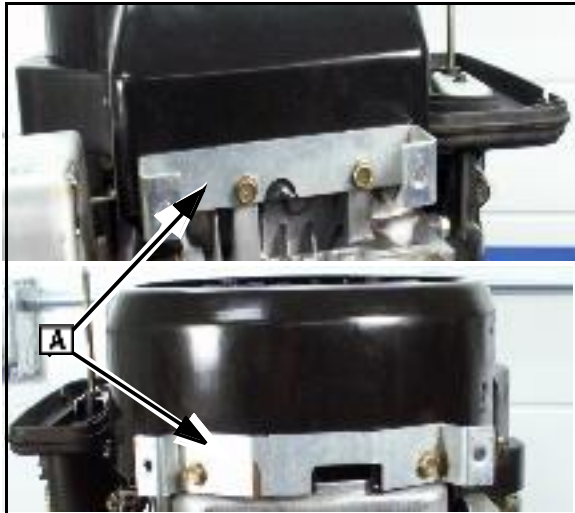
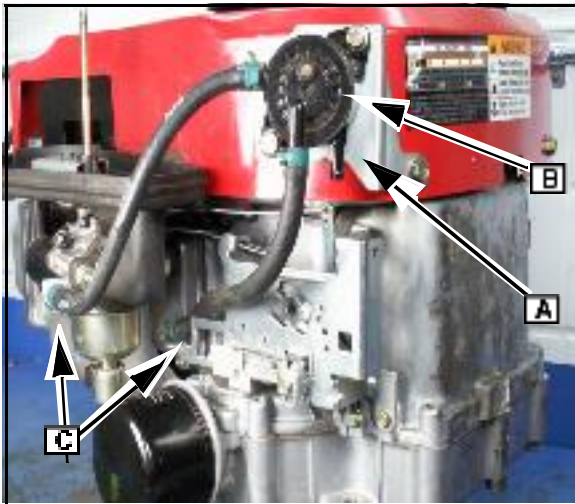

Fig. 54
Fig. 55
9. Install inner blower housing with brackets ([A] Fig. 54) as shown.
11. Install the outer blower housing on brackets (Refer to Fig. 54).
13. Install bracket for the fuel pump (A).
Install pump (B) and connect fuel lines ([C] Fig. 55).